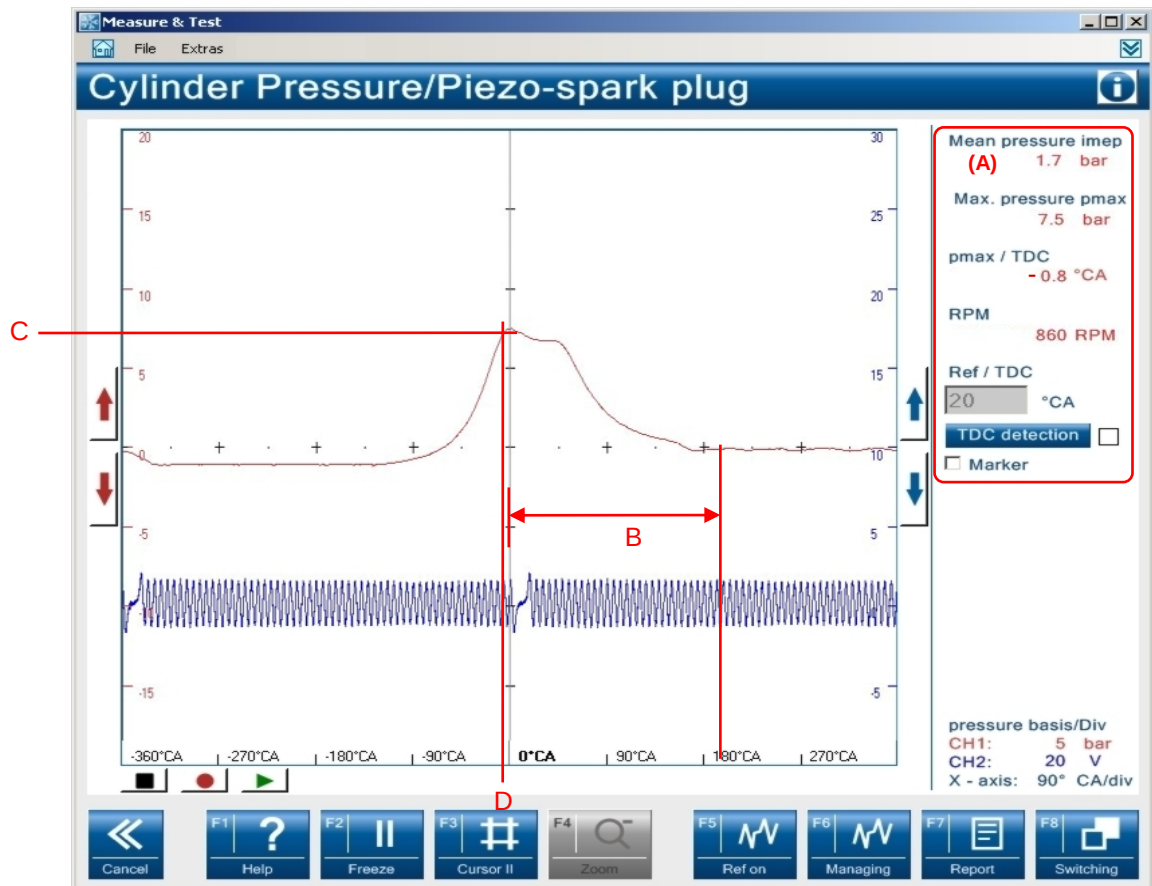

Fig. 3-8
2. On the results graph screen (display mode), see Fig. 3-8, click **F8 Switching**.
4. To return to the results graph screen (display mode), Fig. 3-8, click **F8 Switching**.
Starting from the results screen (display mode), see Fig. 3-8, proceed as follows:
1. On the results graph screen (display mode), Fig. 3-8, click **F8 Switching**.